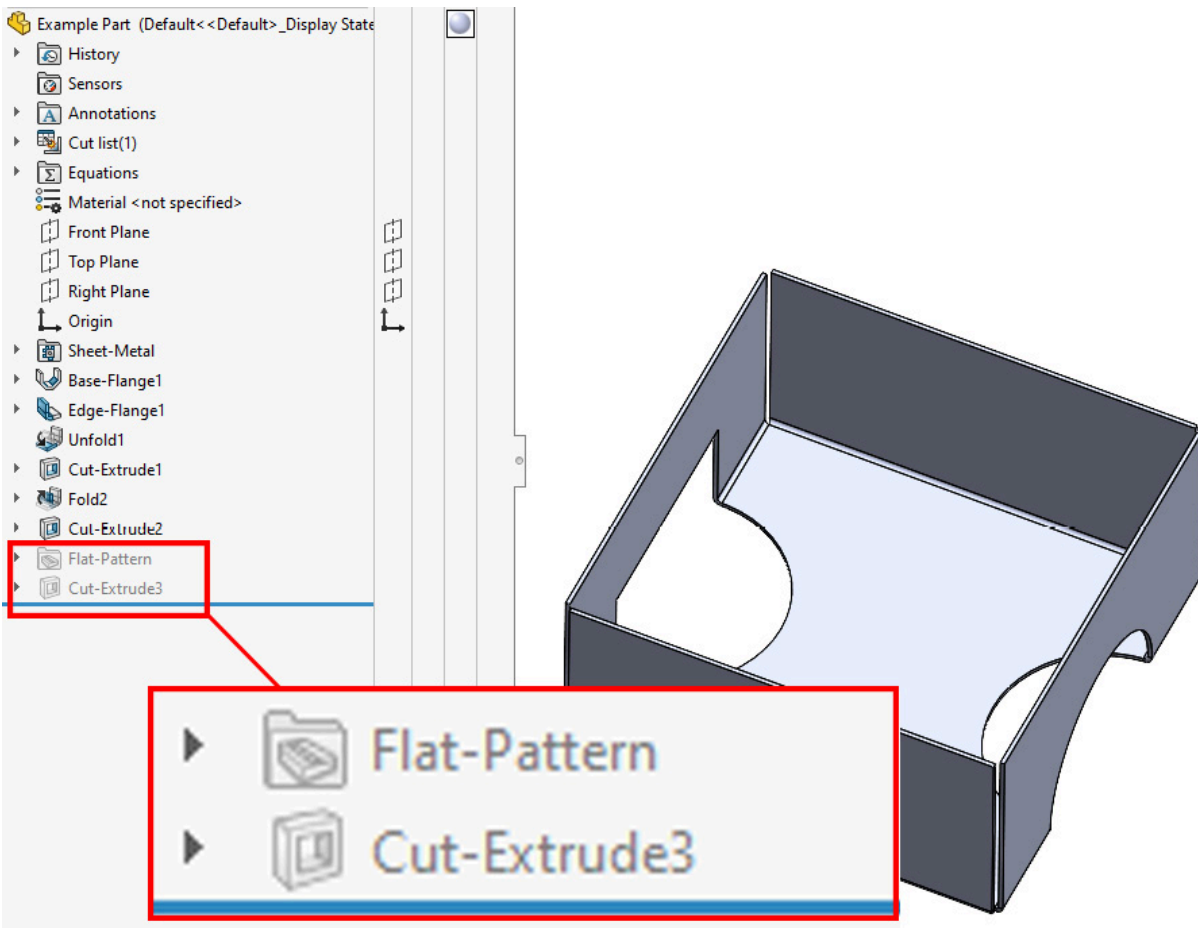

Figure 5.12: Any features created in the flattened model will be suppressed when the part is unflattened
3. Now, unflatten the part, by pressing the **Flatten** button again. Notice that the latest cut is now suppressed because it was a Child feature (that is, it was based on the flattened *part*). Any features added to the model in the flattened state will automatically be suppressed when the *part* is unflattened (see *Figure 5.12*):